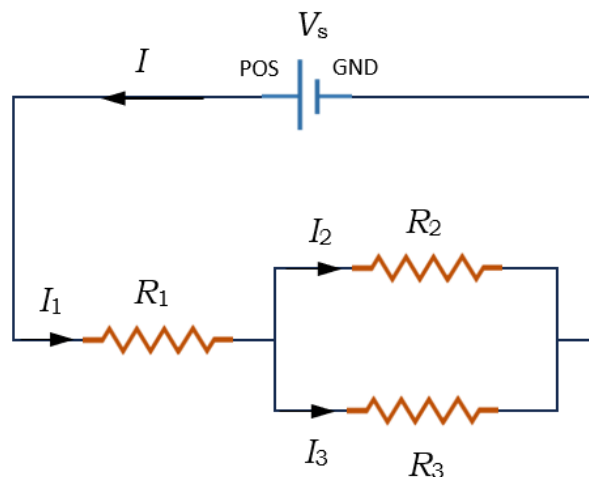

Fig. 5: Combination of series & parallel resistors
2. Implement the circuit given in **Fig.5**.